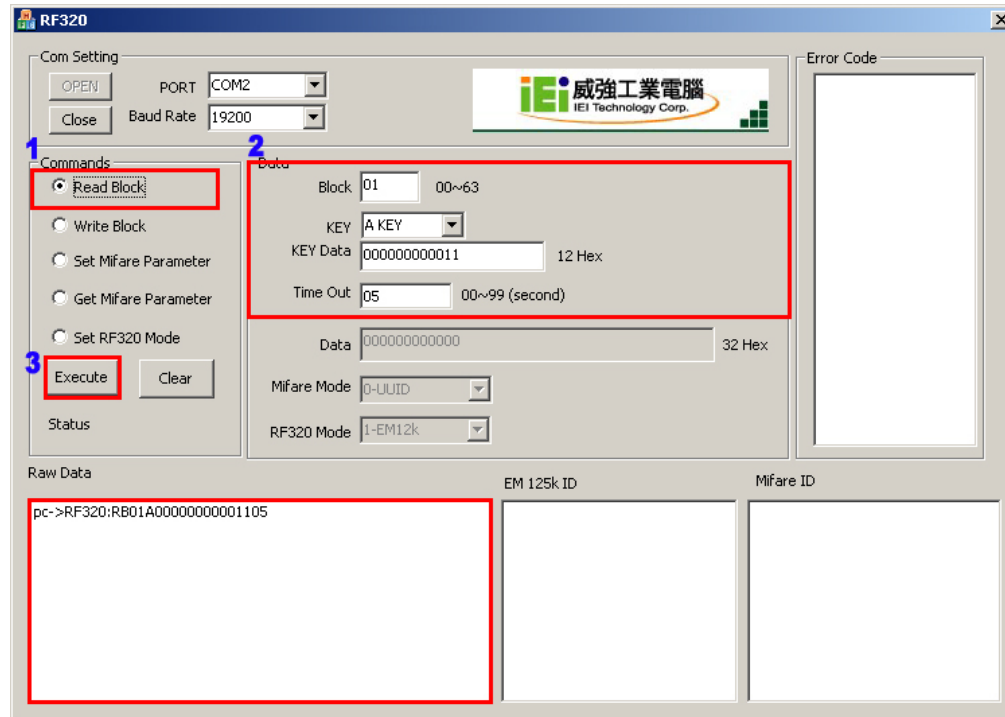

Figure 5-6: Read Block
Step 1: Select **Read Block** in the command area (**Figure 5-6**).
Step 2: Configure the data, including block, key, key data and time out (**Figure 5-6**).
Step 3: Click the **Execute** button to execute the command through the selected serial port (**Figure 5-6**). The raw data of this command shows in the Raw Data area in the format listed in **Table 5-2** and **Table 5-3**.